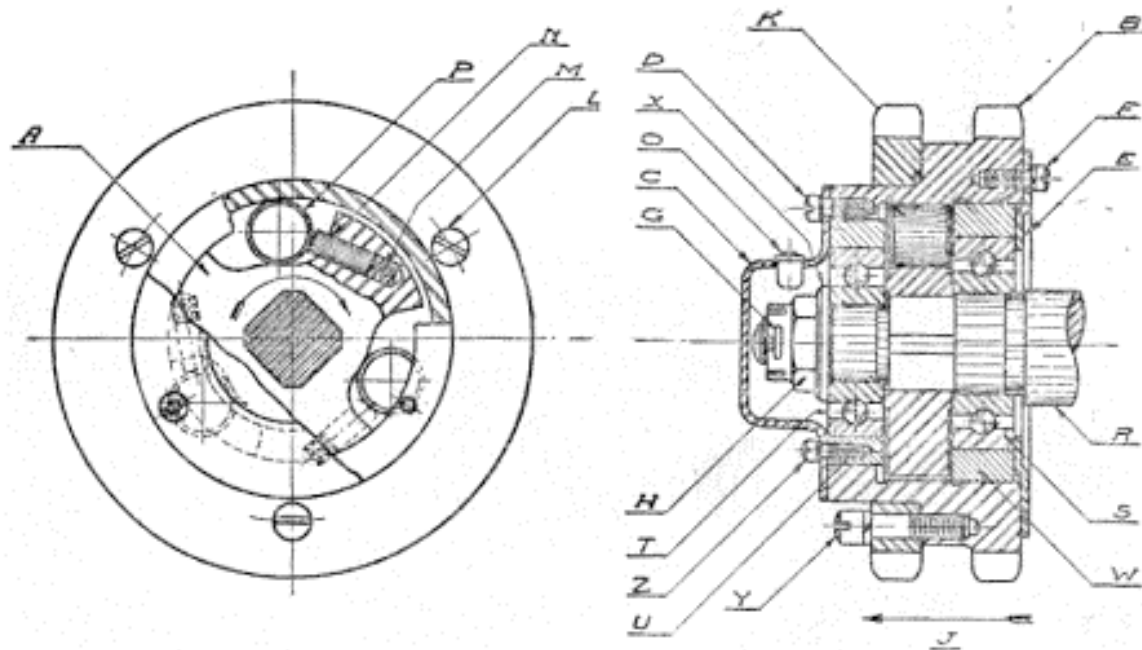

Fig. 2
**Starter.**—Starter is chain connected to the engine crankshaft. There is an overrunning clutch to prevent engine driving starter. Starter should take 100 amperes at 6 volts when armature is revolving at 3600 R. P. M. Greater current indicates damp, grounded or short circuited windings or commutator bars, or tight bearings. Discharged, dry, or sulphated battery, defective battery connections, defective switch contacts, defective starter connections, dirty commutator, high mica, dirty or sticking brushes, defective connections between armature coils and commutator bars or open circuits are the chief causes of low speed and low current. The clutch is shown in cross section in Fig. 2, Page 188. To disassemble clutch, first remove screws "Z", then remove screws "D", take off retainer "C", remove nut and cotter pin "G", take off retaining washer "X", remove screws "F" remove entire clutch mechanism in direction indicated by arrow "J", remove clutch center "A", remove ball bearing "S", remove ball bearing seat "W" and remove retaining Plate "E".